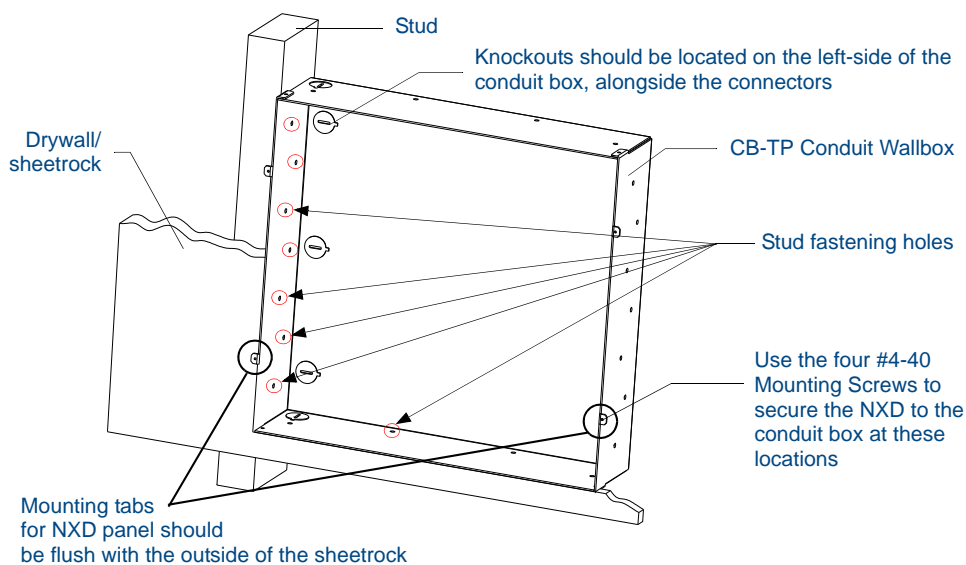
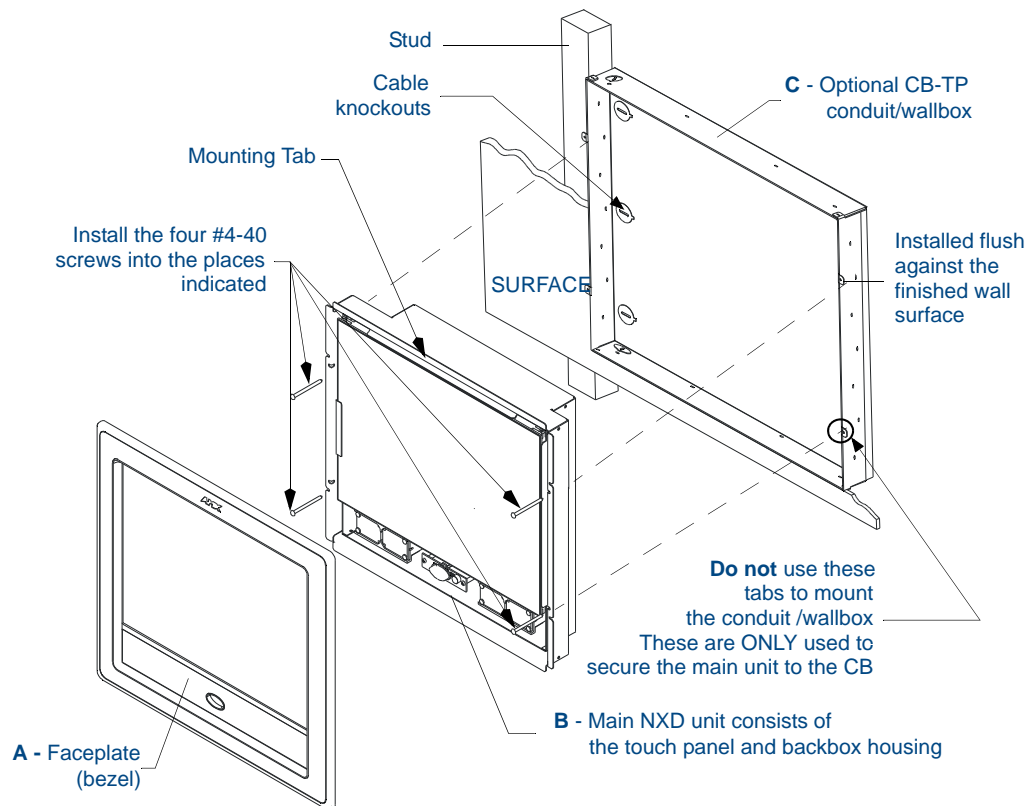

FIG. 37 Screw locations for conduit box attachment in a pre-wall installation
FIG. 38 Wall Mount panel installation configuration for pre-existing conduit/wallbox in a pre-wall construction
1. Fasten the CB-TP12 to a stud through the stud fastening holes, located on the inside of the conduit box (FIG. 37), by using either nails or screws.
2. Remove any necessary wiring knockouts from the (optional) conduit box (C in FIG. 37) where the necessary cables are threaded through for connection to the touch panel.
1. Remove the magnetic faceplate/bezel (A in FIG. 38) from the main NXD unit (B in FIG. 38) by gripping the faceplate and pulling with gentle outward force.
6. Carefully slide the main unit (**B** in FIG. 38) into the conduit box, so the Mounting Tabs lie flush against the conduit box (**C** in FIG. 38).
7. Insert and secure the four securing #4-40 Mounting Screws into their corresponding holes located along the sides of the NXD (FIG. 37 and FIG. 38).
8. Place the magnetic faceplate (**A** in FIG. 38) back onto the main NXD unit (**B** in FIG. 38).